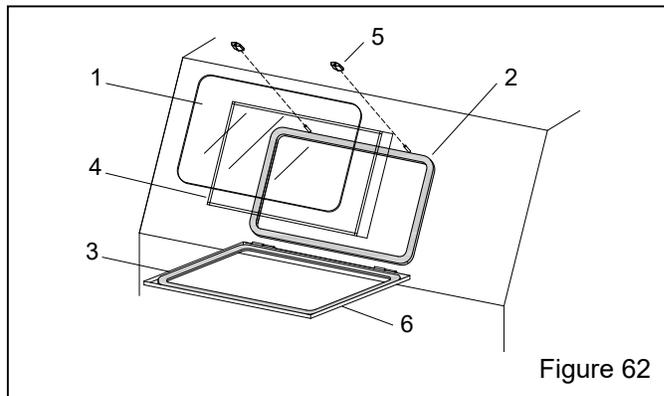

Figure 62
10.5 View-Window Assembly – Figure 62